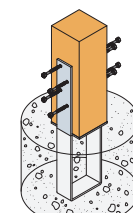

Fig 3: Install SSH screws
3. Install 4 number SSH8.0X60 screws into each upstand flange providing a total of 8 fixings per CBQ (Figs 3 & 4)